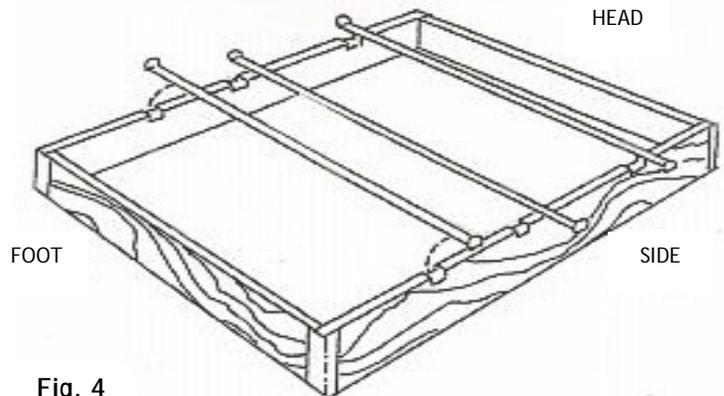

Fig. 4
3. Place the three angle-iron cross pieces in the slots at the head, center, and foot end of the bed base. (See figure 4.)